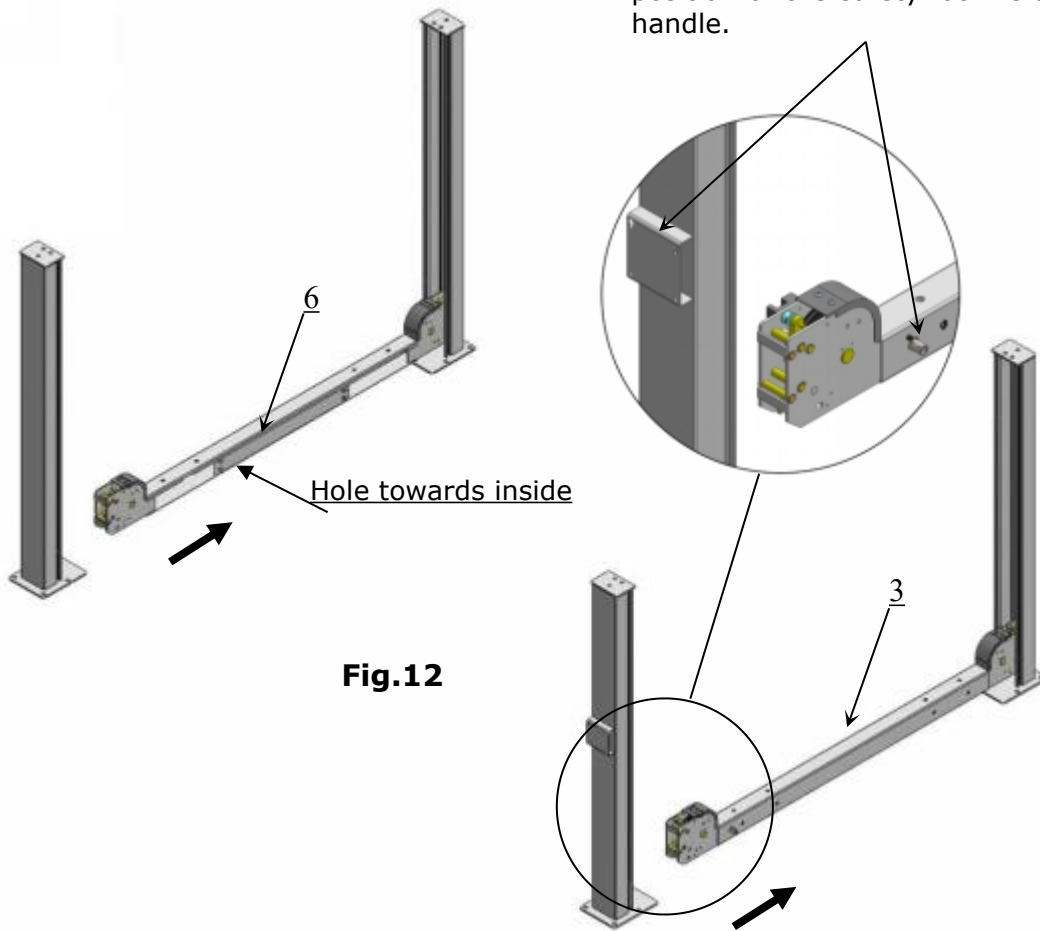
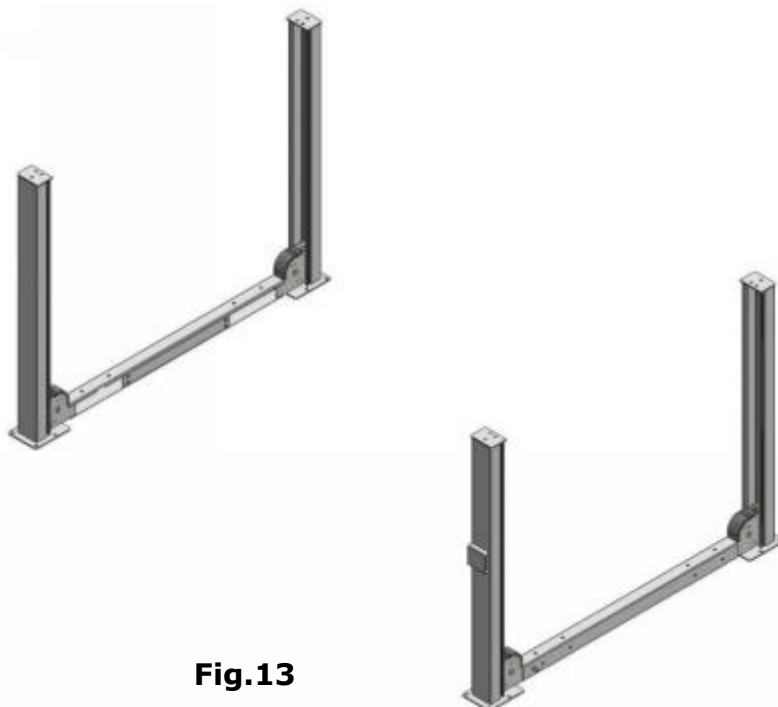

Fig.12
Fig.13
C. Install cross beams (See Fig.12, Fig.13).